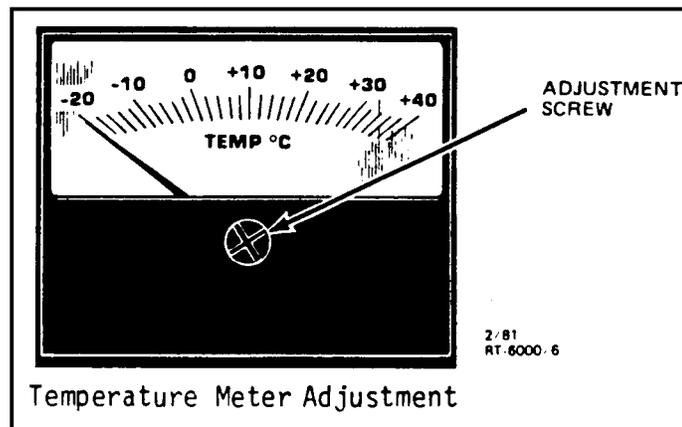

Figure 3-36
- b. Adjust the screw until the pointer reads -20° C. (See Figure 3-36.)